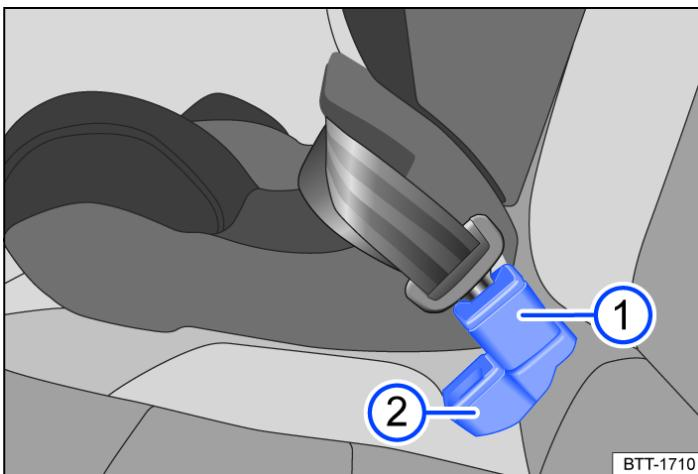

Fig. 1 Position of seat belt buckles on the rear bench seat
- Push the buckle for the middle seat → Fig. 1 1 behind the buckle for the outside seat → Fig. 1 2.
- Insert the latch plate of the seat belt of the middle seat into the buckle for the middle seat → Fig. 1 1 and push it down until it audibly engages.